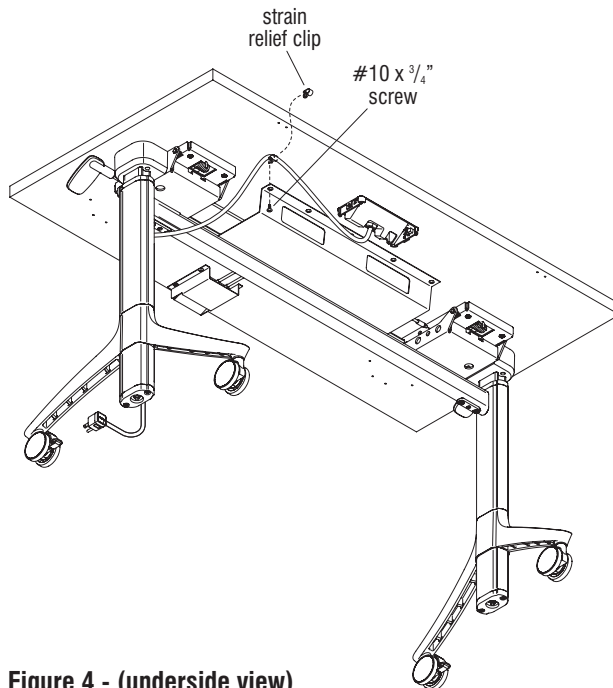

Figure 4 - (underside view)
3. Insert the cable into the openings of the clips. Secure the clips to the tabletop using one $\#10 \times \frac{3}{4}$ " screw per clip (Figure 4 & Detail A).